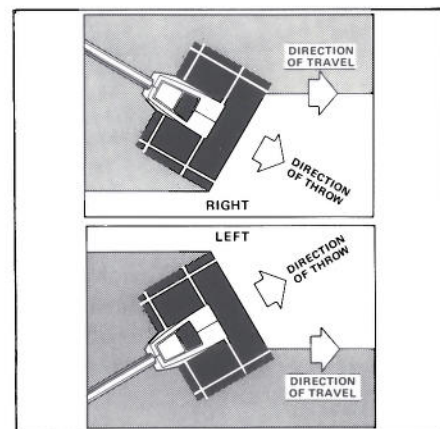

Figure 5
2. Direct the snow to the right or left by holding the Power Shovel at a slight angle (Fig. 5).